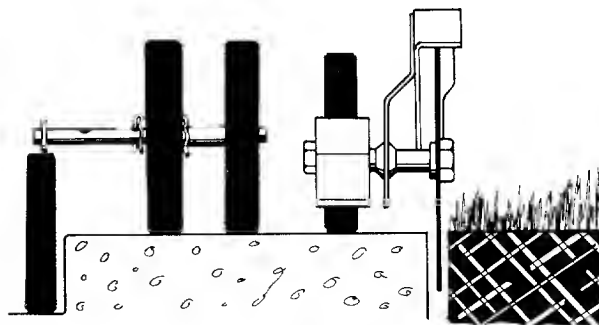

FIGURE 18
3. To edge along a curb, remove the hairpin clip from the left side of the front axle, slide the left wheel toward the right side of the unit and replace the hairpin clip. See figure 18. Lower the right rear wheel by moving the height adjustment lever toward the engine, pivoting the wheel to the desired depth and releasing the lever. See figure 19.